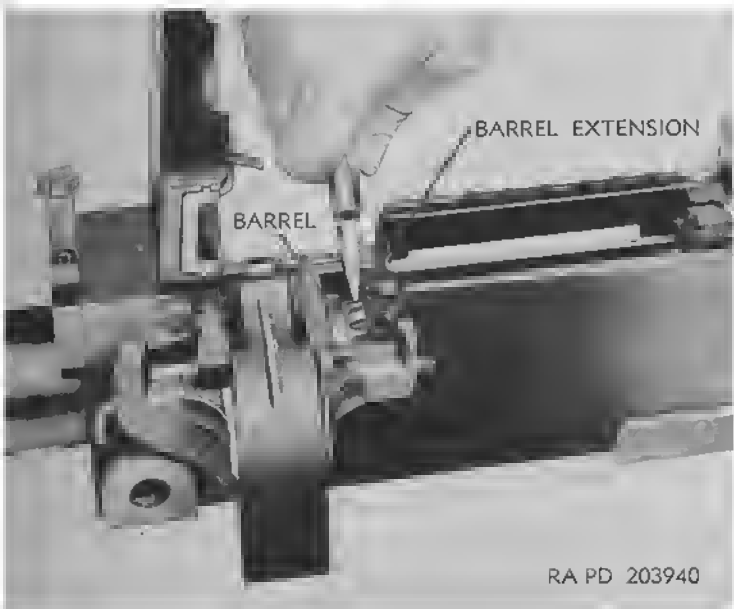

Figure 5. Adjusting head space.
c. To adjust the head space, pull the bolt to the rear about three-quarters of an inch. Screw the barrel into the barrel extension (fig. 5), using the nose of a cartridge in the barrel notches until the recoiling parts will not go into battery under pressure of the driving spring when the bolt is released. Then unscrew the barrel from the barrel extension one notch at a time, checking after each notch until the barrel, barrel extension, and bolt will just go fully forward into the battery without being forced. Then unscrew the barrel one additional notch. If correctly adjusted, the recoiling parts will go into battery without the least bind, and with a solid metallic sound when eased forward from approximately 1 inch out of battery position.